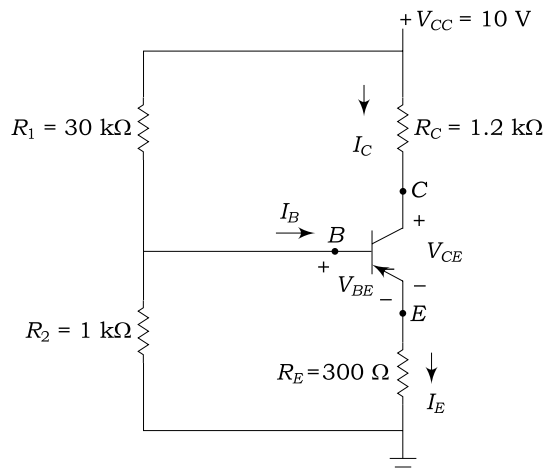

Fig. 2.127
54. The divider biasing circuit of a *PNP* transistor is depicted in Fig. 2.127. Determine the Q -point of the circuit when the value of β is 55. Assume $V_{BE} = 0.6$ V.